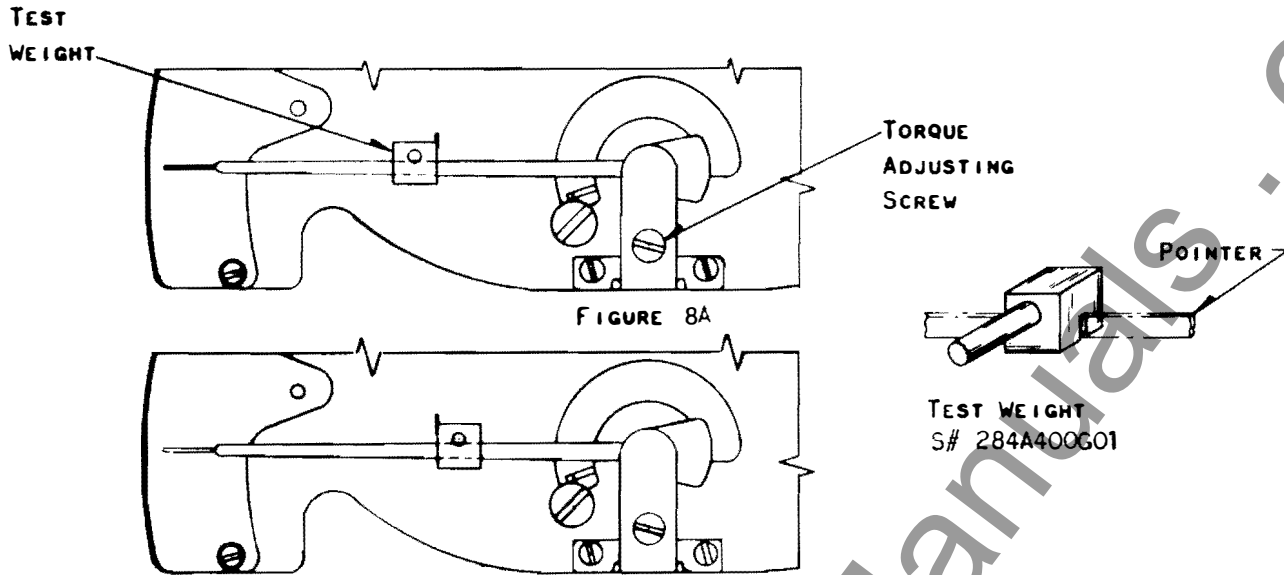

FIGURE 8B
3. Push demand pointer back to the horizontal position and slide test weight so that the left edge is in line with the vertical line as shown in Figure 8B. This insures that the slip torque is above the minimum requirement. (If pointer slips, it will be necessary to turn clockwise on screw until pointer does not slip and then recheck Step 2.)